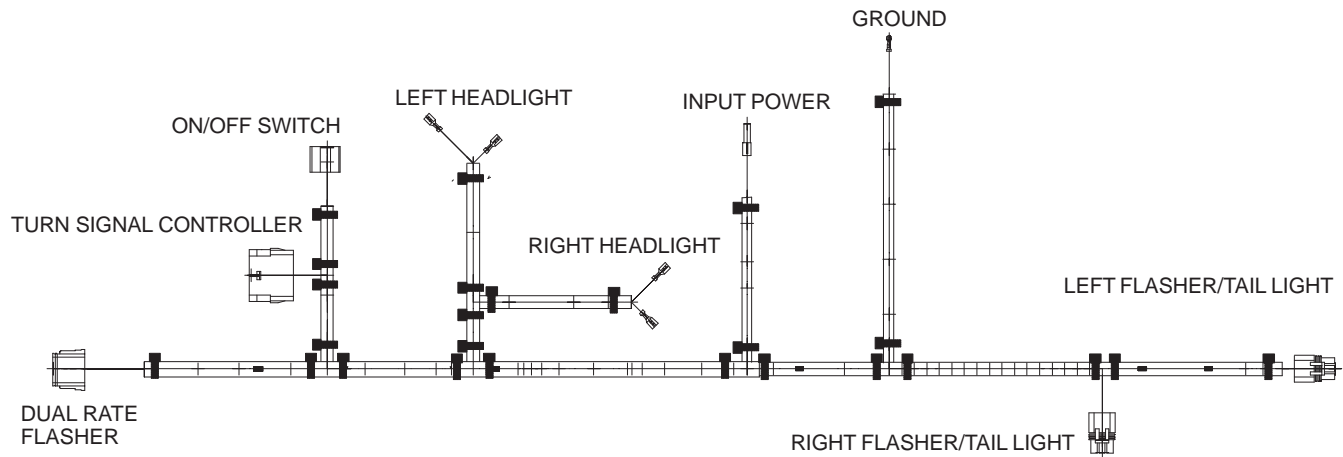

Figure 8
11. Route the wire harness (Fig. 8) as follows: